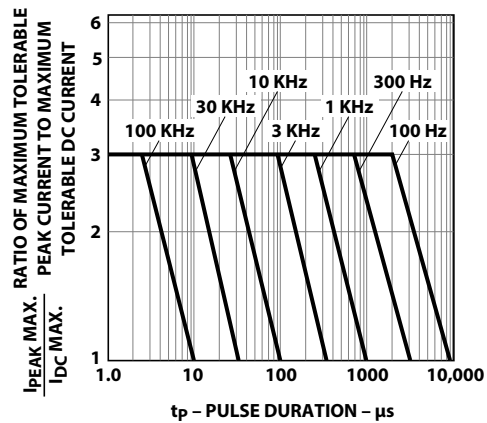

Figure 5. Maximum tolerable peak current vs. pulse duration. ($I_{DC\text{ Max.}}$ as per maximum ratings.)
- See Figure 5 to establish pulsed operating conditions.